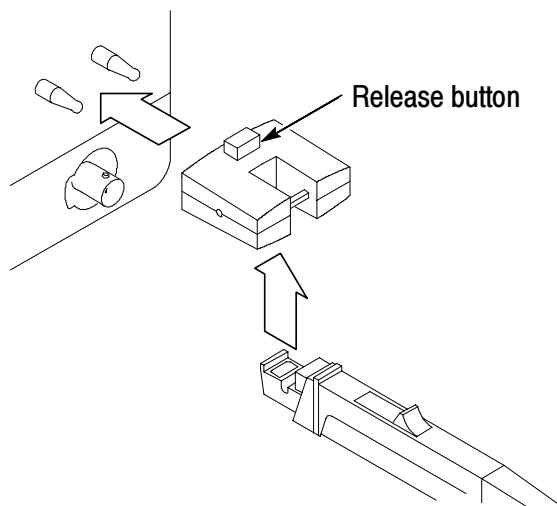

Figure 3: Connecting the Calibrator
1. To connect the calibrator, press the release button (Figure 3) and connect the calibrator to the probe compensation output of the oscilloscope.